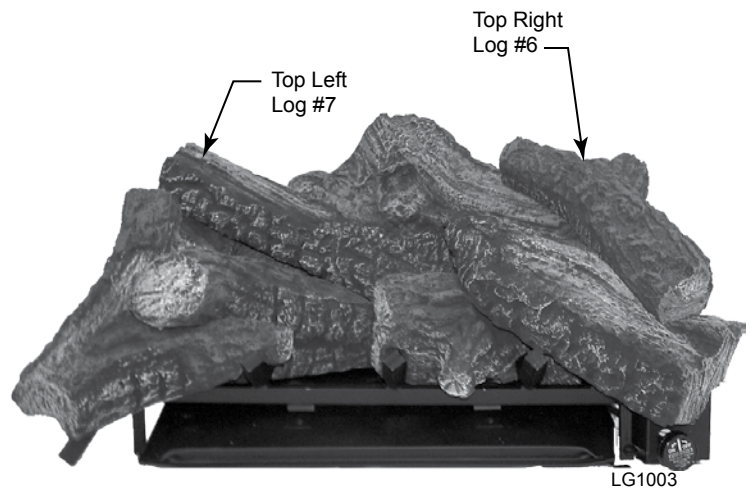

**Figure 41**
2. Place bottom right log (#2) on right side of grate. *Figure 41*
3. Place bottom left log (#3) on left side of grate. *Figure 41*